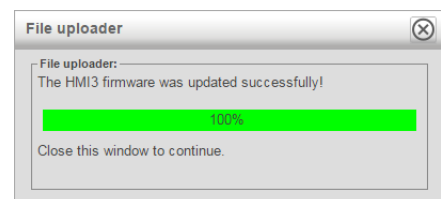

Figure 37: HMI3 software update complete
2. Wait until presented with the screen shown in Figure 37. The HMI3 was updated successfully, you can now close the window and use the system normally.